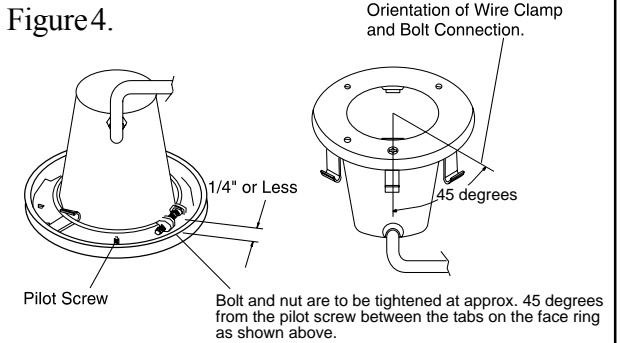

Figure 4.
- With the light resting on its base, place the gasket assembly on top of the light shell as shown, see Figure 4. A NEW LENS GASKET MUST BE USED EACH TIME THE LIGHT IS REASSEMBLED. Center the stainless steel face ring and place it over the lens and gasket assembly. The locking levers should all be hanging freely down to install over the lens and gasket. Align the special pilot screw on the face ring with the letter "R" of the word "Before" as used in the phrase "SUBMERGE BEFORE LIGHTING" found on the lens surface and the compression fitting on the light shell.
- Turn the light so that it is now resting on its lens. Tighten the screw and nut until the distance between the ends of the clamp equals 1/4 inch or less; see Figure 4.